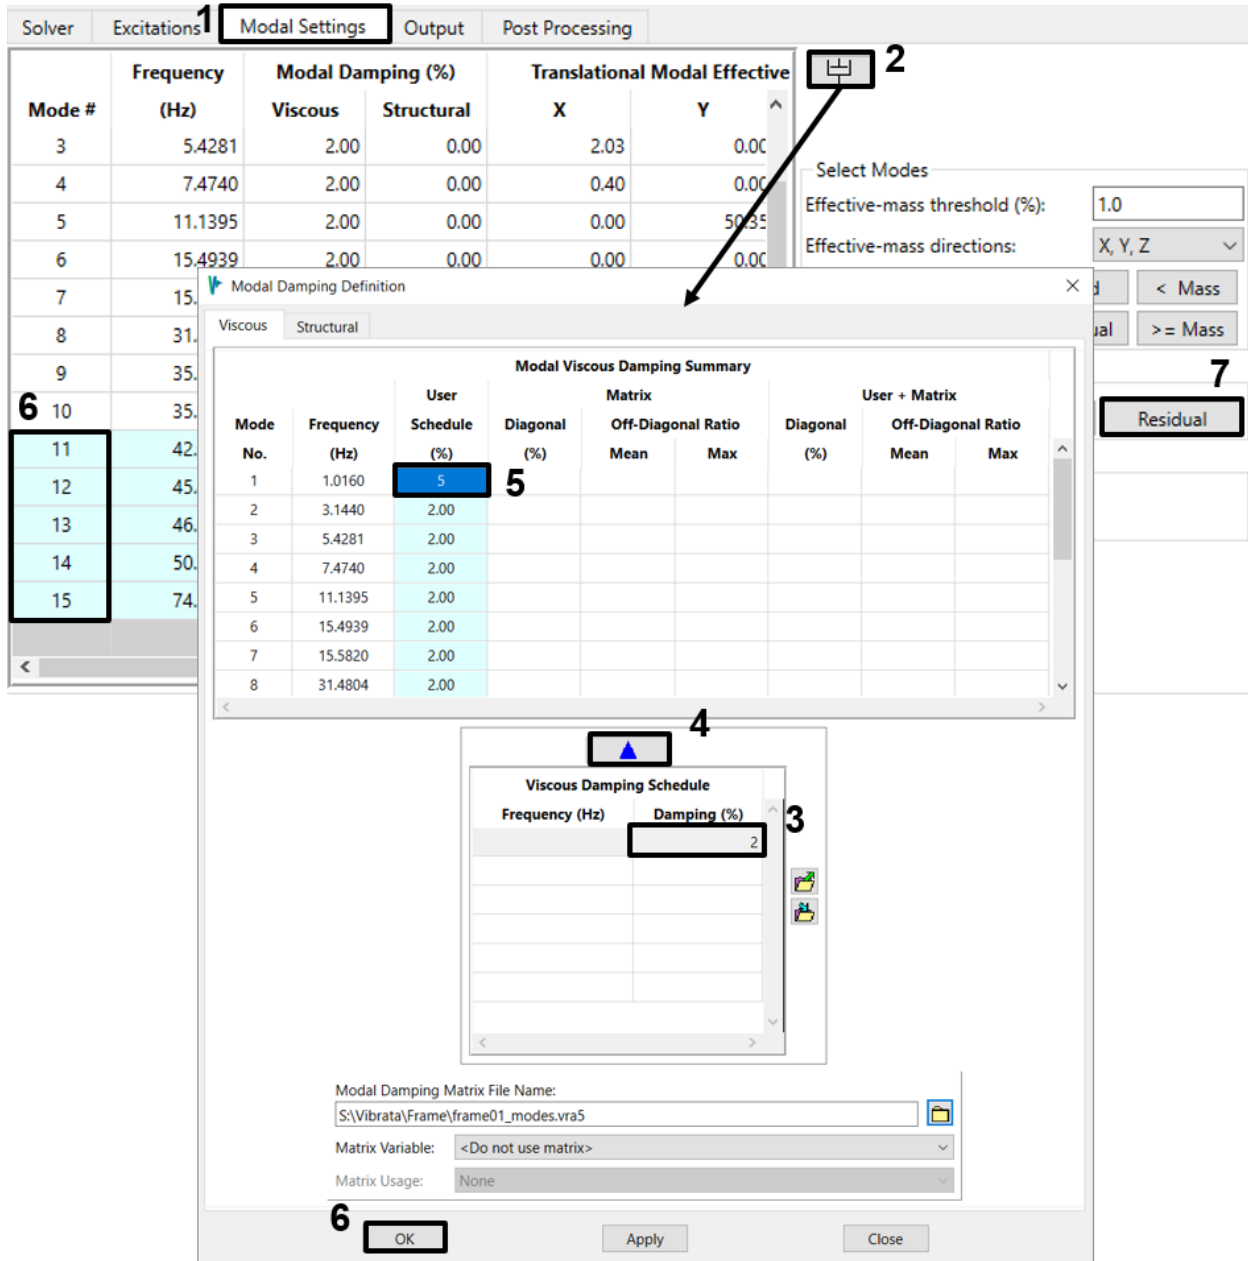

Figure 4-32. Apply 2% damping to all modes via damping schedule, then set mode 1 to 5%.
- c. Click the Apply Schedule button . In the *Damping Summary* table, each mode now has 2% damping. Change the first mode's damping to 5% by double-clicking on that cell in the *Damping Summary* table and typing in the value, as shown in Figure 4-32. Click **OK** to apply the damping changes and close the dialog.